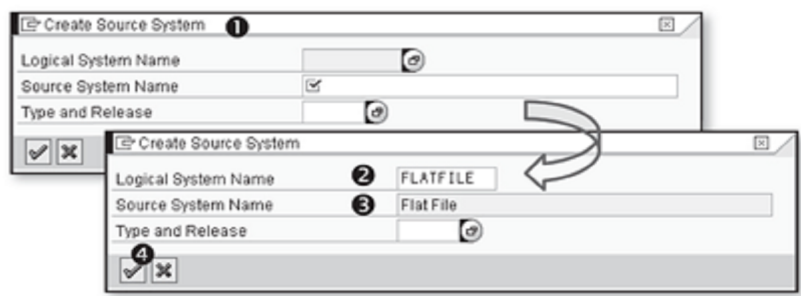

Figure 7.4 Create Source System
For our example scenario, select File Source System (3). From the context menu, select Create (4). This action generates a screen titled Create Source System, as shown in 1 of Figure 7.4.